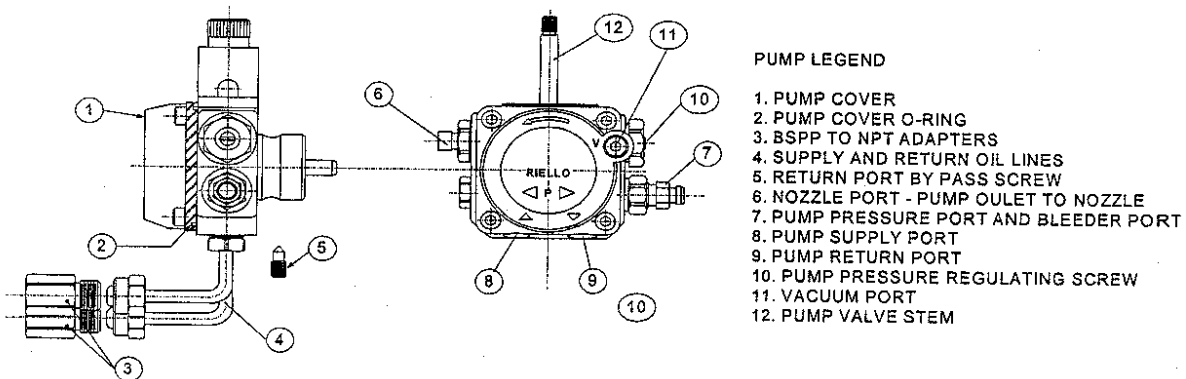
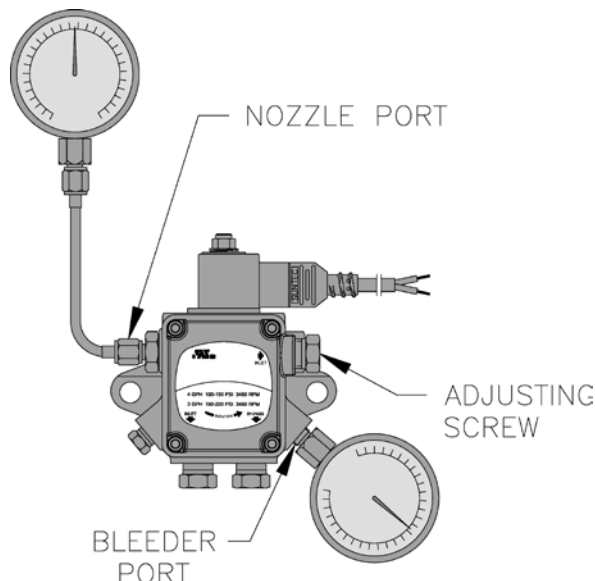

Figure 20: Riello Pump Connections and Port Identification
Figure 21: Adjusting Fuel Pump Pressure
- g. **Pump Connections and Port Identification**, refer to Figure 20.
- a. When checking a fuel unit's operating pressure, a reliable pressure gauge may be installed in either the bleeder port or the nozzle port. For Beckett burner refer to Figure 21. For Riello burner refer to Figure 20.